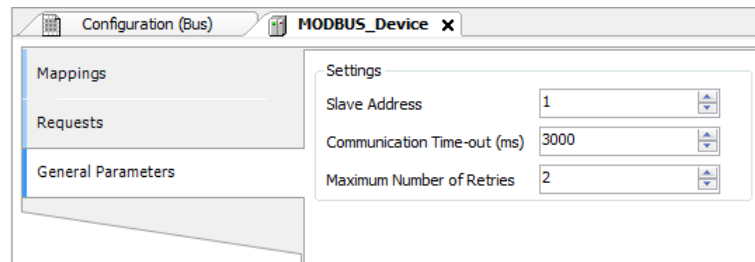

Figure 44: Device General Parameters Settings
- Add and configure devices via the General Parameters tab, defining the slave address, communication time-out and number of communication retries as can be seen in Figure 44.